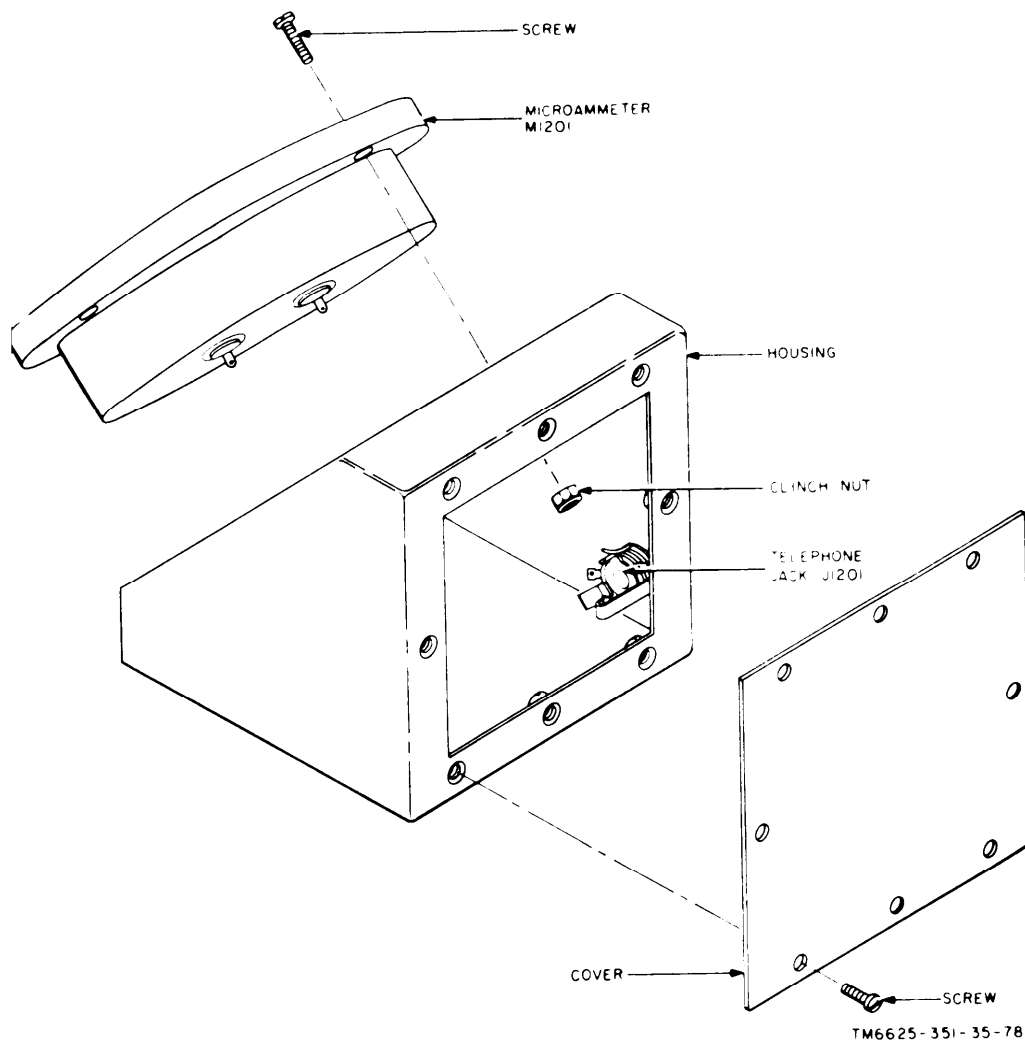

Figure 87. Multimeter, Remote ME-204/URM-86, parts location diagram.
a. *Multimeter, Remote ME-204/URM-85* (fig. 87). During operation or checking of the test set, the remote meter may be interconnected to the main unit by using Cord Assembly, Electrical CX-4305/U. One telephone plug PJ-068, at one end of the CX-4305/U, mates with main unit front-panel jack J704; the second telephone plug PJ-068, at the opposite end of the 30-foot cord, mates with telephone jack J1201 on the remote meter. With this interconnection completed, the pointer on the remote meter should duplicate the indications on the main unit panel meter. If malfunctioning of the remote meter is indicated after possible defects in the main unit have been eliminated (para 67), suspect a defective cord, telephone jack J1201, or microammeter M1201. Follow the exploded view (fig. 87) for disassembly and reassembly of replacement parts..